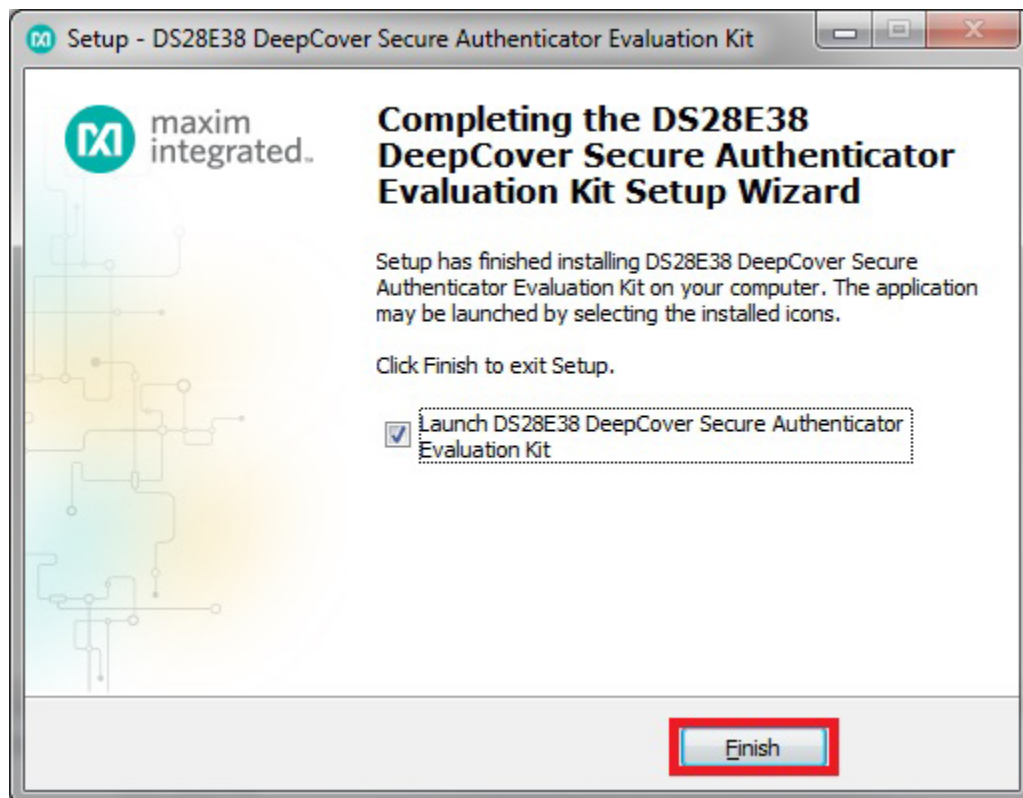

Figure 11. Software Installation Finished
11) Click on **Finish** to close the final window and confirm the software is installed correctly (Figure 11).